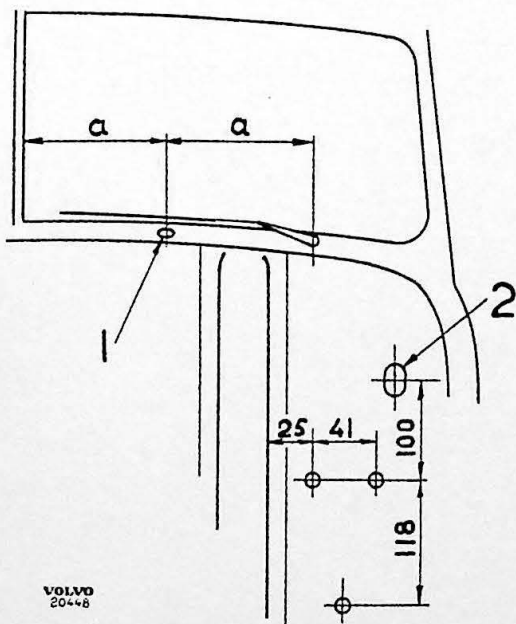
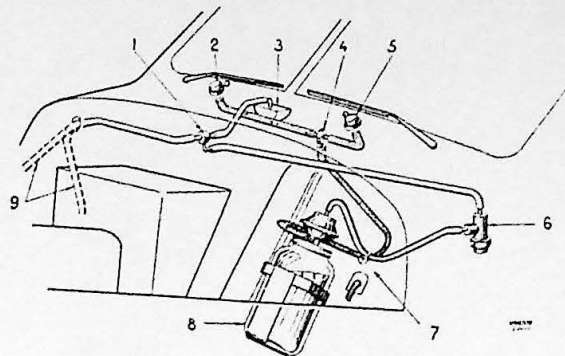

Fig. 26.
Fig. 27.
The windscreen spray nozzles (2 and 5, Fig. 27) are best fitted on the upper part of the cowl midway between the windscreen wipers and the central pillar as shown in Fig. 26. Measure up and mark these positions very carefully one of which is shown in 1. Then drill the holes 25 mm (1") from the edge of the rubber weatherstrip. Use
Mark out and drill holes for the water container (8) and screw it into position. See Fig. 26. Hole 2 shows the position of the hand brake cable.